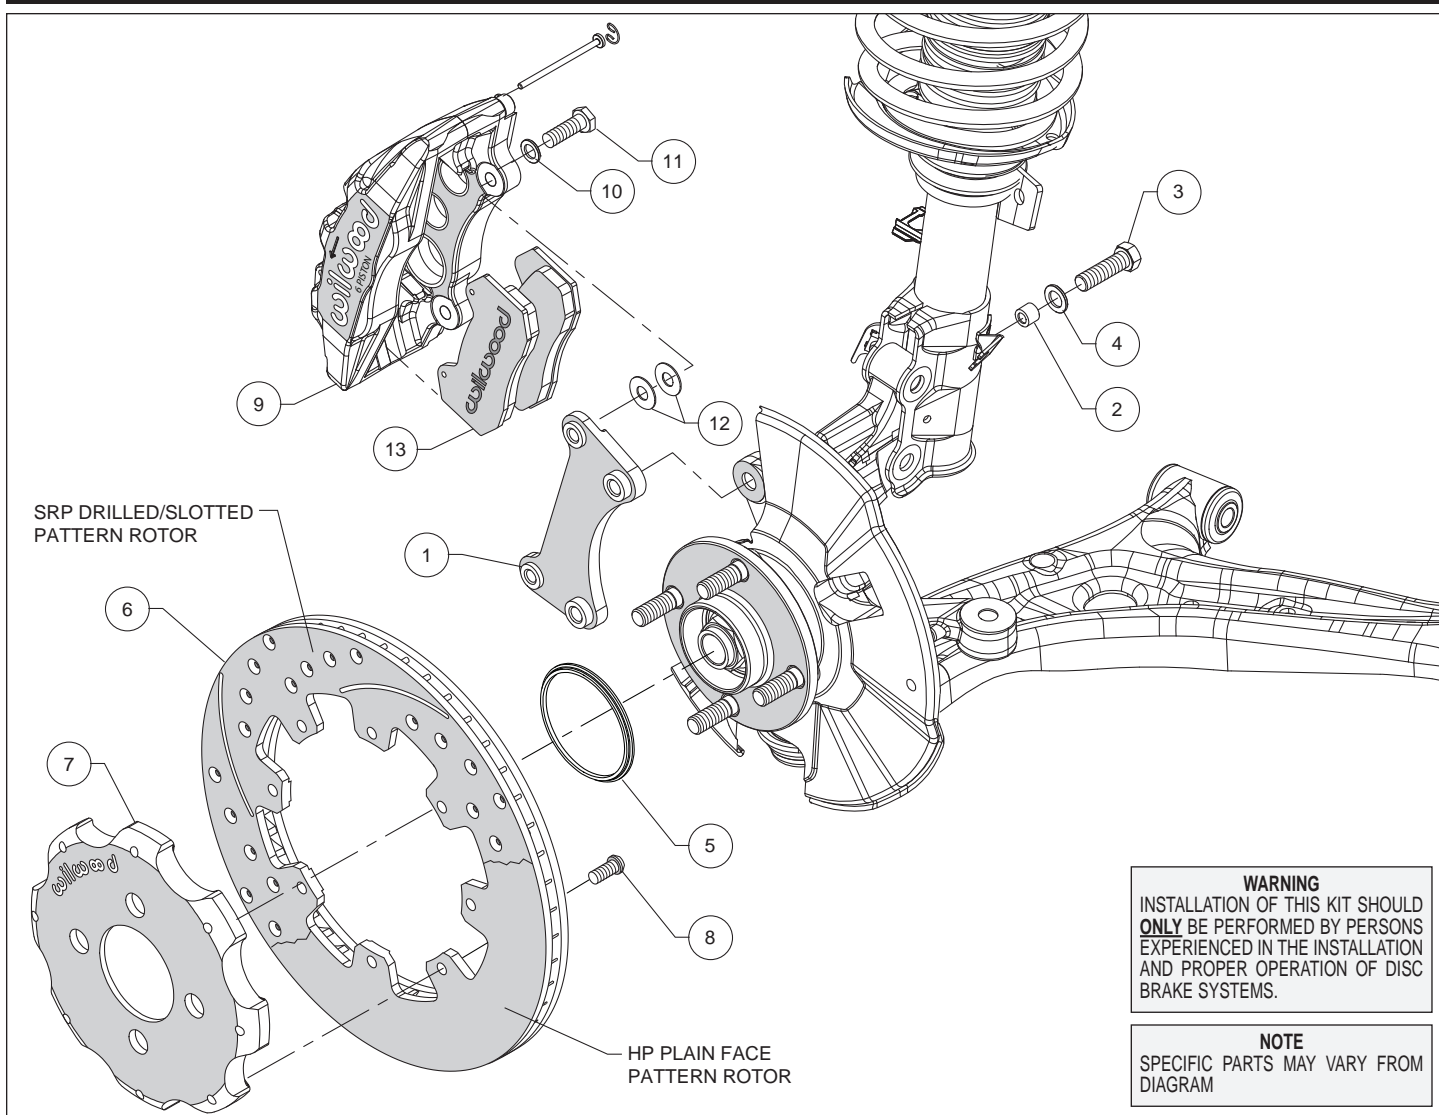
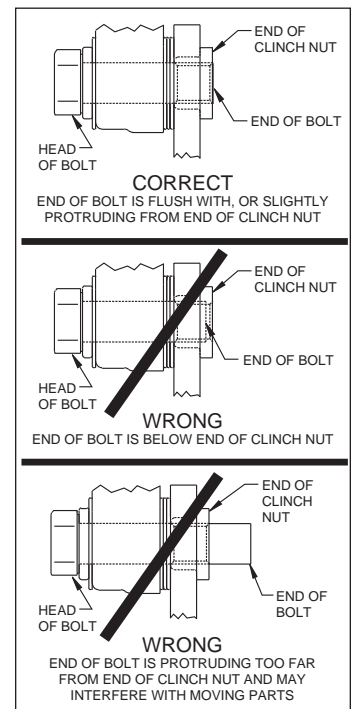

Figure 1. Typical Installation Configuration
Figure 3. Clinch Nut Engagement Diagram
Assembly Instructions (numbers in parenthesis refer to the parts list and Figure 1 on the preceding pages): **CAUTION:** All mounting bolts must fully engage clinch nuts. Be sure to check that all bolts are either flush or protruding through flanged side of clinch nut after shimming, Figure 3.
- Orient the caliper mount bracket (1) as shown in Figure 1 and Photo 1, and install using bolts (3) and washers (4). Insert one sleeve (2) into each of the holes in the spindle “ears” where the Original Equipment Manufacturer (OEM) caliper bracket was removed. Ensure that the flanged heads of the clinch nuts in the bracket are facing outboard, Photo 1. Temporarily tighten the mounting bolts. **NOTE:** The bracket must fit squarely against the mount bosses on the upright. Inspect for interference from casting irregularities, machining ridges, burrs, etc. Remove bolts one at a time, apply red *Loctite*® 271 to the threads and torque to 60 ft-lb.
- Orient the rotor (6) and the hat (7) as shown in Figure 1 and Photo 2. Attach rotor to hat using bolts (8). Using an alternating sequence, apply red *Loctite*® 271 to the threads, and torque to 25 ft-lb.
- Slide the rotor registration adapter (5) onto the axle register on the axle hub with the smaller O.D. facing toward the rotor/hat (6/7), Photo 3. Slide the hat/rotor assembly onto the axle hub, Photo 4. **NOTE:** The hat must fit flush against the axle hub flange or excessive rotor run out may result. Install three lug nuts (finger tight) to keep the hat/rotor assembly in place while continuing with the installation.
- **NOTE:** Please reference the caution statement at the beginning of the assembly instructions. This kit contains distinct right and left hand calipers that must be mounted in a specific direction, as described below. Mount the caliper (9) onto the caliper mounting bracket (1) using bolts (11) and washers (10), as shown in Figure 1. Initially place two .035" thick shims (12) on each bolt between the caliper and the bracket, Photo 5. Ensure that the caliper is mounted so the largest pistons are at the rotor exit end of the caliper, in relation to the direction of rotor rotation. Temporarily tighten the mounting bolts and view the rotor (6) through the top opening of the caliper. The rotor should be centered in the caliper, Photo 6. If not, adjust by adding or subtracting shims between the bracket and the caliper. Always use the same amount of shims on each of the two mounting bolts. **NOTE:** The end of each bolt must be flush with or slightly protruding from the head of the clinch nut, as shown in Figure 3.
- Remove the two pad retaining pins from the caliper (9) by carefully popping out the pin retaining clips and sliding out the pins. Insert the brake pads (13) into the caliper from the bottom, Figure 1 and Photo 7, with the friction material facing the rotor. Secure the brake pads in place with the pad retaining pins and clips, Photo 8. Reinstall the caliper onto the caliper mounting bracket. Apply red *Loctite*® 271 to bolt threads (11), and torque to 40 ft-lb.